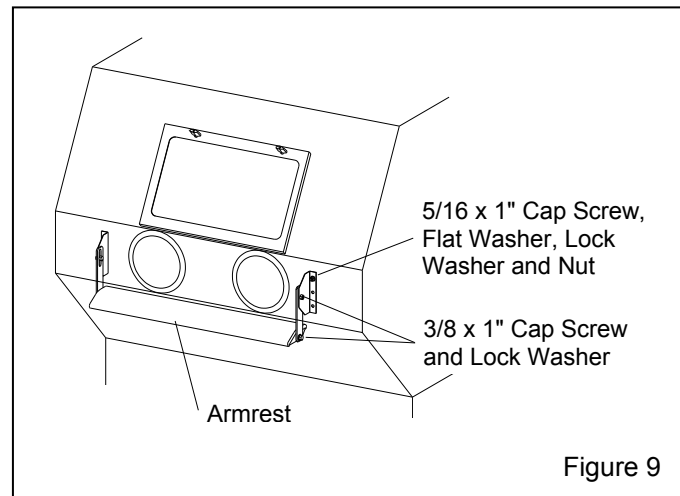

Figure 9
3.4.1 Assemble the armrest and mounting brackets as shown in Figure 9.